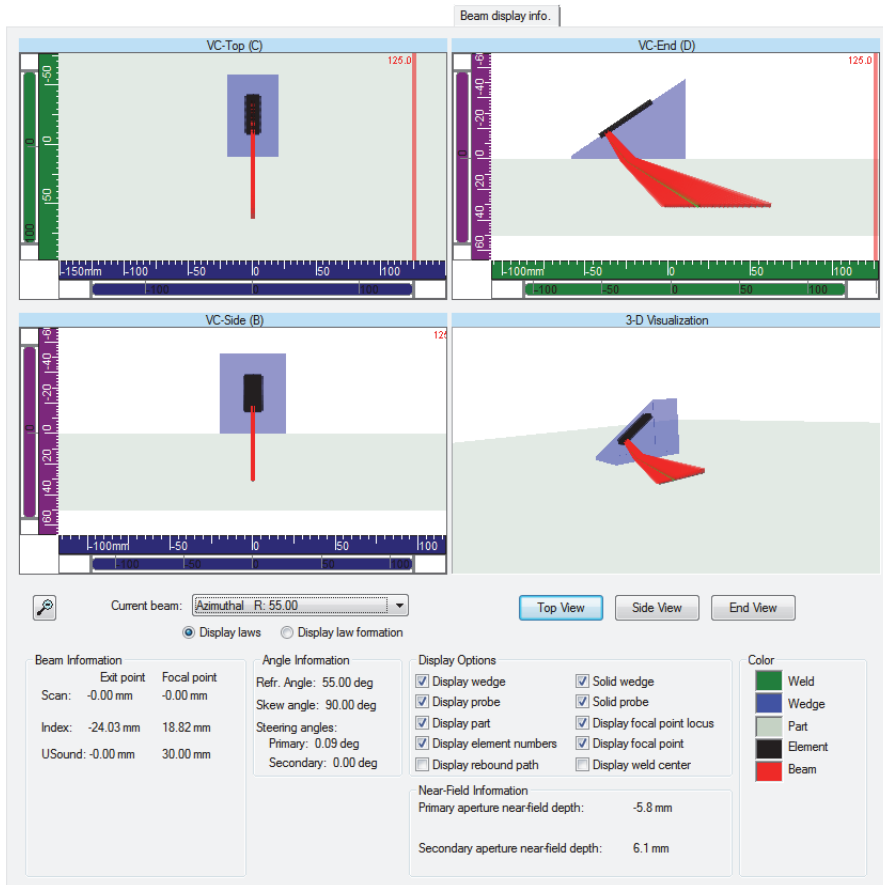

Figure 4-10 Example of the Beam display info tab in the Calculator
- n)* Use the four views and the parameters below the views to validate the calculated beams (Figure 4-10 on page 106).